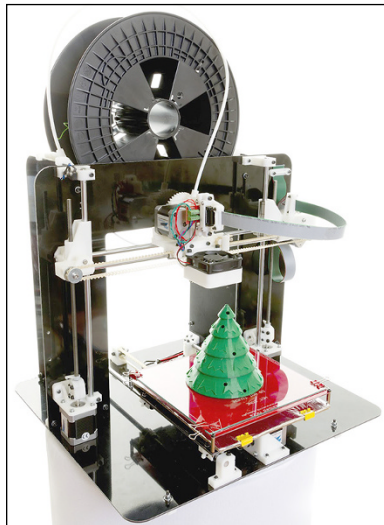

FIGURE 11-7:
- » **Mendel90:** This machine (see Figure 11-7) is a variant on the Mendel design that has a rigid frame (usually made of laser-cut wood) and plastic acrylic sheet or laminated DIBOND material as the main structural elements rather than the traditional RepRap threaded rods used in the Prusa machines. It uses almost all 3D-printed parts apart from the main structural frame, which is often manufactured from an aluminum-and-plastic DIBOND laminate. Mendel90 was designed by Chris Palmer (also known as Nophead), one of the original RepRap team members. He shares a vast amount of RepRap and 3D-printing information on his Hydraraptor Blog (at <http://hydraraptor.blogspot.com>). This blog is an essential read for anyone who wants to understand the history, challenges, success, and failures of 3D printing at home.